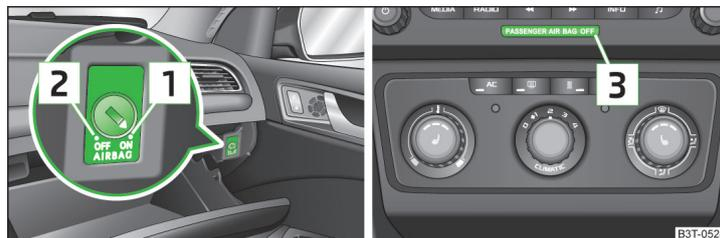

Fig. 13 Key-operated switch for the front passenger airbag / warning light for front seat passenger airbag deactivation
- The **OFF**  **3** » Fig. 13 on page 21 warning light illuminates when the ignition is switched on.
- Use the key to turn the slot of the key switch into position **2** » Fig. 13 OFF.
- Use the key to turn the slot of the key switch into position **1** » Fig. 13 ON.